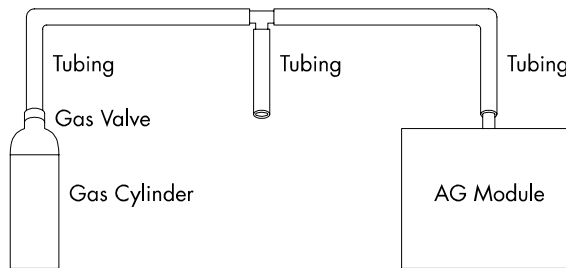

FIGURE 5-8 Gas Calibration
2. Connect the gas bottle and the tubing using a T-connector as shown in FIGURE 5-8.